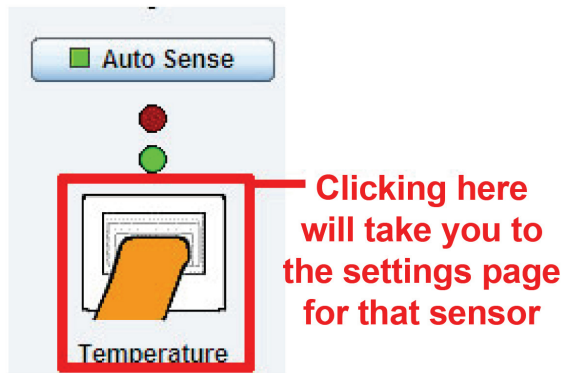

Figure 3-16. Temperature sensor settings icon.
7. Click on any available sensor. The settings for that particular sensor will appear as shown in Figure 3-16.